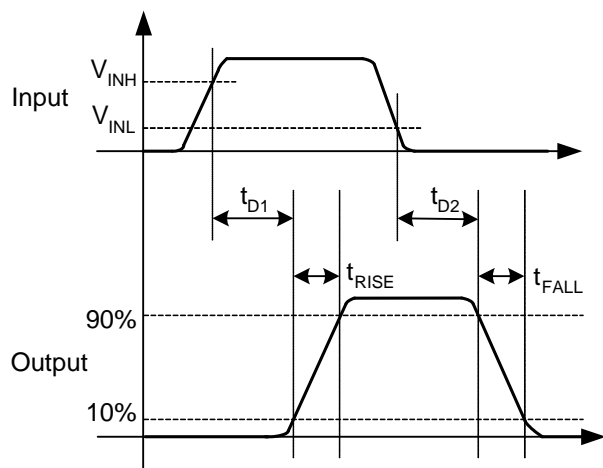
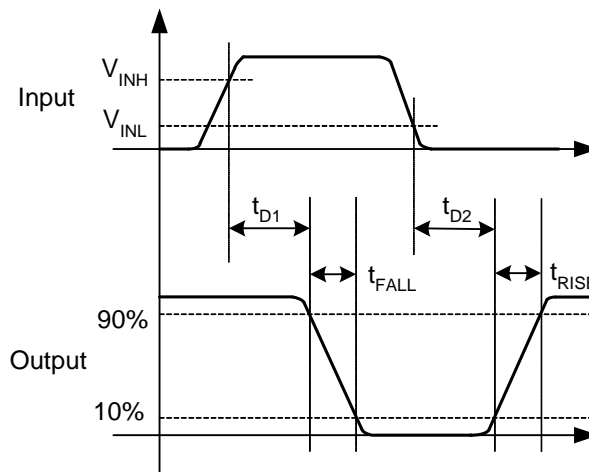

Figure 8. Non-Inverting (EN HIGH or Floating)
Figure 9. Inverting (EN HIGH or Floating)
14. See *Timing Diagrams of Figure 8 and Figure 9*.